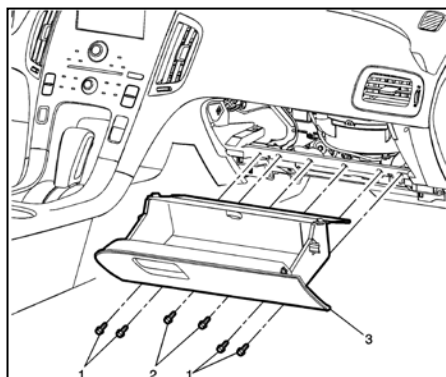

Fig. 5
11. Remove instrument panel lower compartment fasteners (1) and tether fasteners (2) (see Fig. 5).
12. Remove instrument panel lower compartment (3).